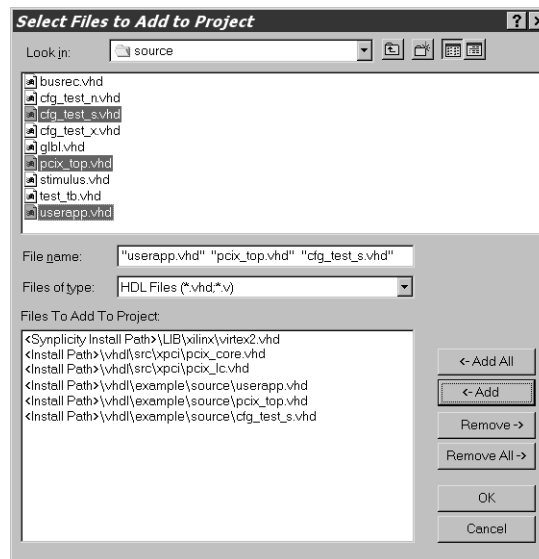

Figure 5-13: Files to Add (User Application)
- Navigate to the source directory (Figure 5-13), select the cfg_test_s.vhd, pcix_top.vhd, and userapp.vhd, then click Add.